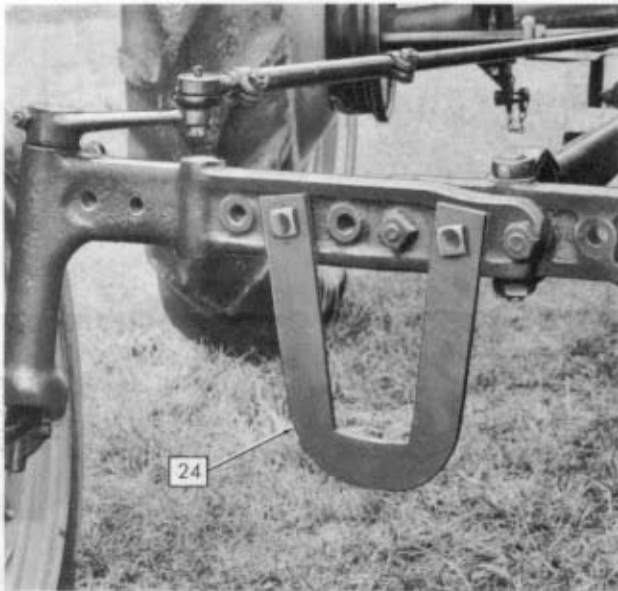

Figure 8
**Step 2:** Attach stirrups (24) to the front axle as shown in Figure 8.